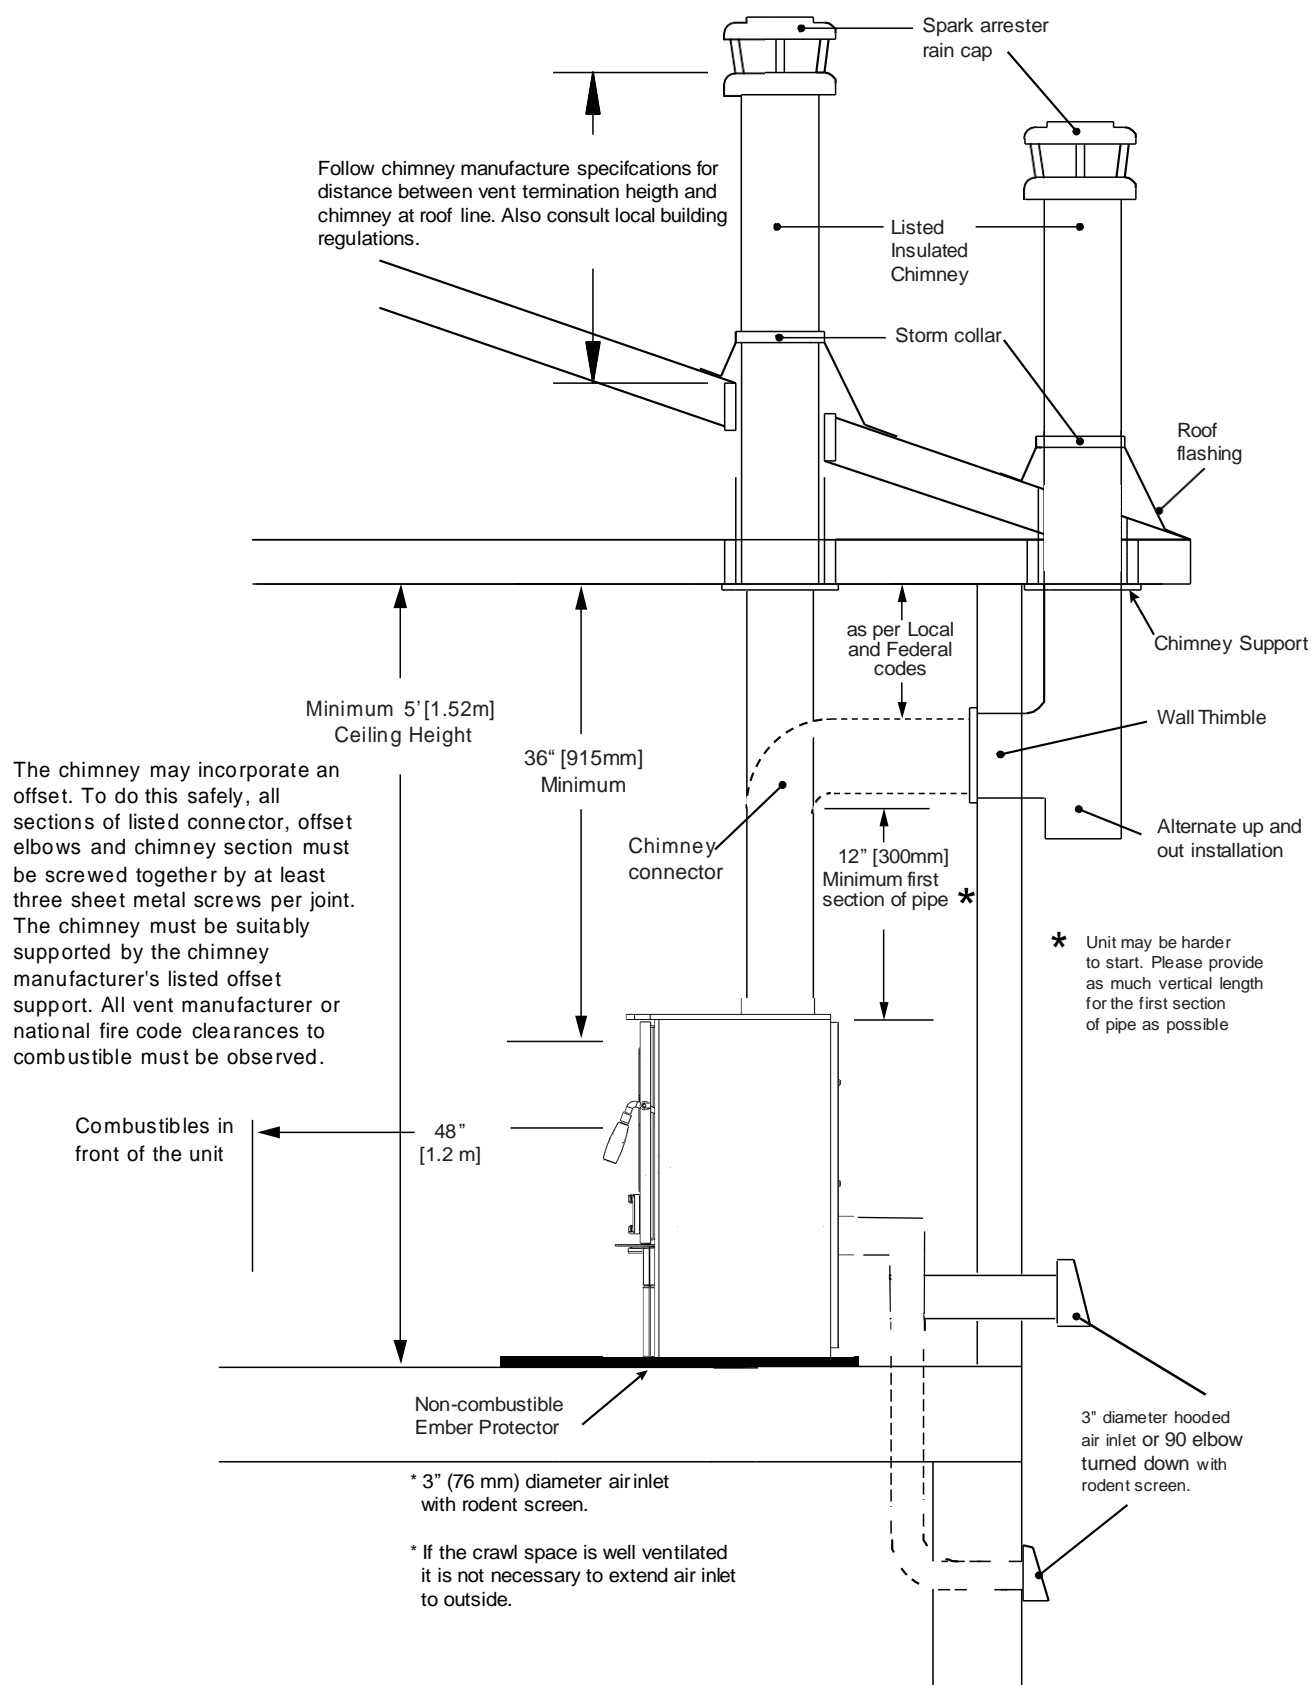

Figure 7 : Factory-Built Chimney
- **To draw outside air through the floor ;** Attach the outside air adapter to the stove. Mark then cut or drill a 4"(100mm) diameter or larger hole in the floor under the adapter .This hole must get its air from a ventilated crawl space or be extended with duct to the outdoors (Figure 7 : Factory-Built Chimney)